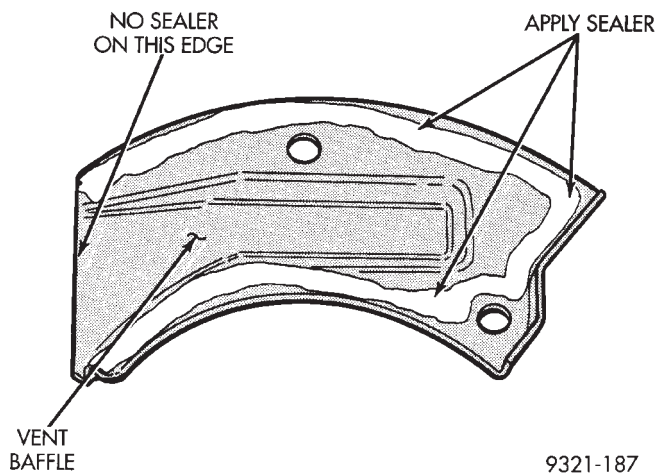

Fig. 286 Baffle Installation
(48) If the carrier requires reconditioning, refer to Differential Carrier Recondition.
(49) Install vent baffle. Apply sealer as shown in (Fig. 286).